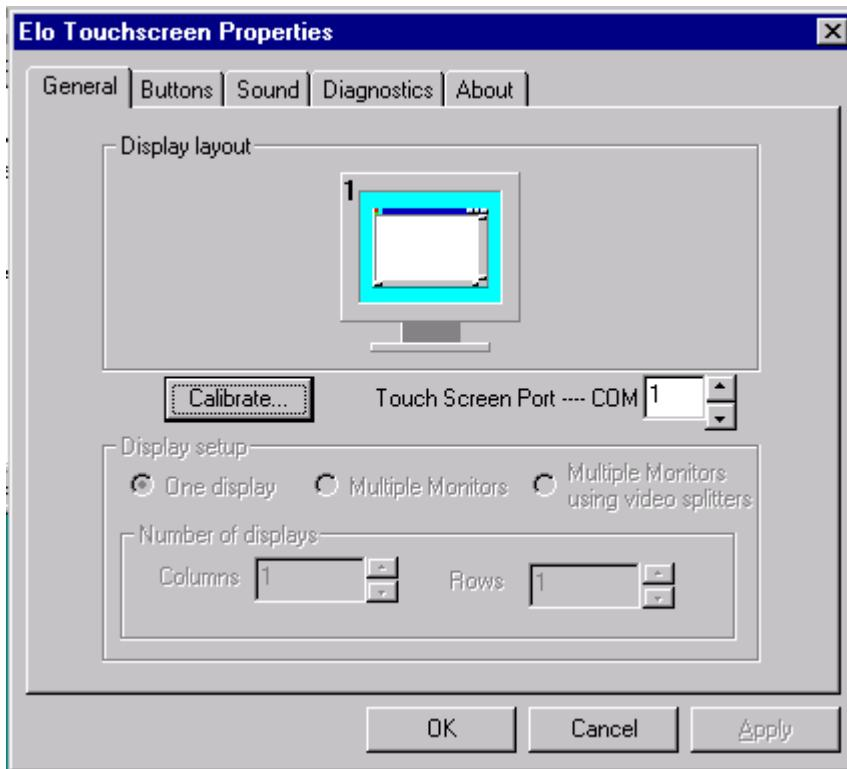

FIGURE 10. Touchscreen Dialog
3.9 On the ELO Touchscreen dialog, press the 'Calibrate' button. See FIGURE 10.